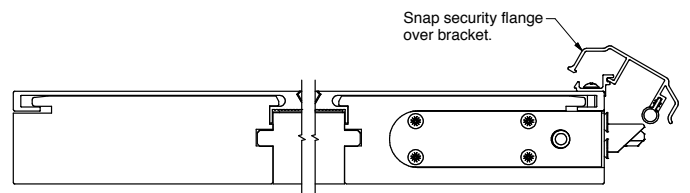

Figure 18
**1r) (Required- French Outswing Only)** Snap security flange over the bracket as shown in figure 18.